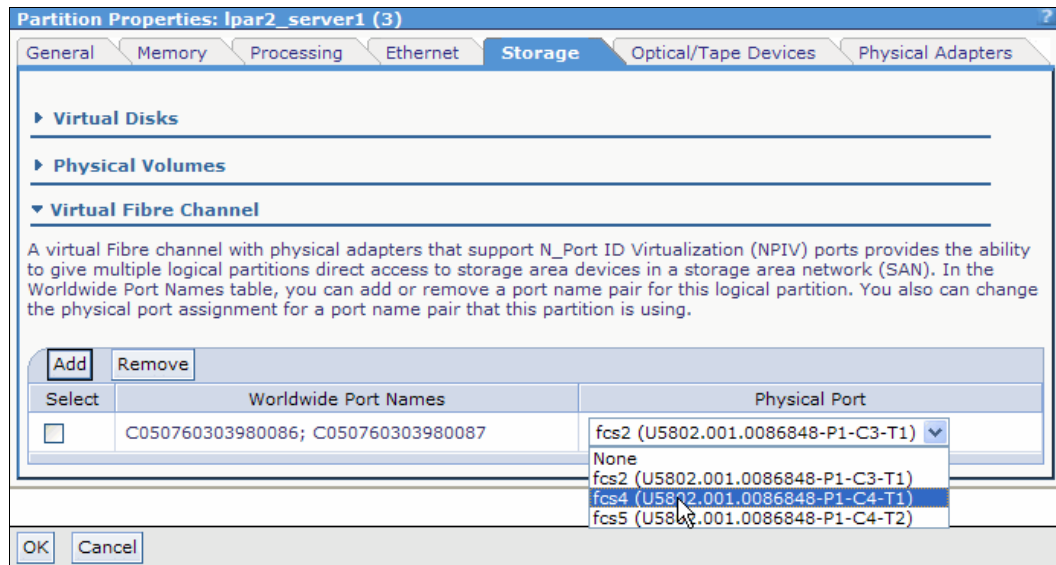

Figure 4-105 Changing the physical port for a virtual Fibre Channel adapter
3. Expand the **Virtual Fibre Channel** menu in the Storage tab. A list with available virtual Fibre Channel adapters is displayed. Using the pull-down menu under the **Physical Port** column, choose the new physical port for the virtual Fibre Channel adapter that you want to change. See Figure 4-105.